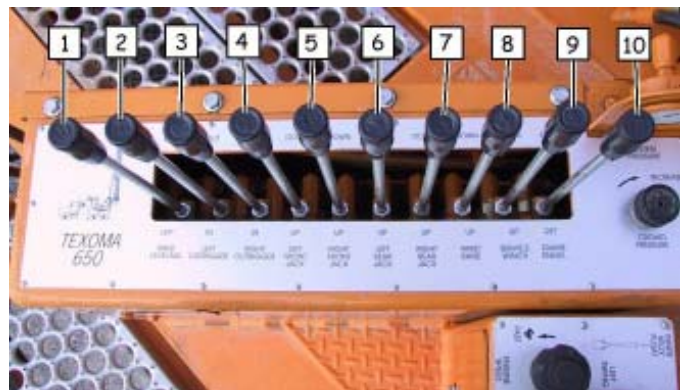

Fig. 4-8a Main Valve Bank
2. Push mast lever (item 8, fig. 4-8a) to lower mast.
3. Pull service winch lever (item 9, fig. 4-8a) to wind cable onto winch as mast is lowered.